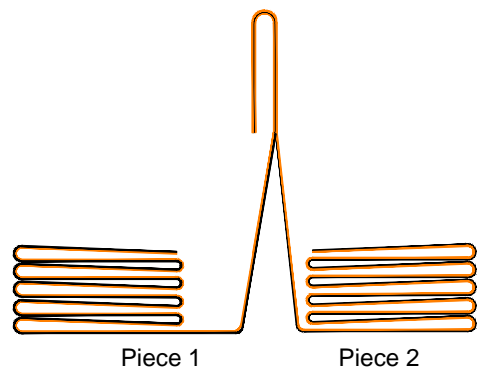

FIGURE 4
4. FOLD OVER EXISTING SEWN SEAM AND SEW A SECOND PASS AS SHOWN ON THE GENERAL SEWING INSTRUCTIONS, (FIGURE 4)